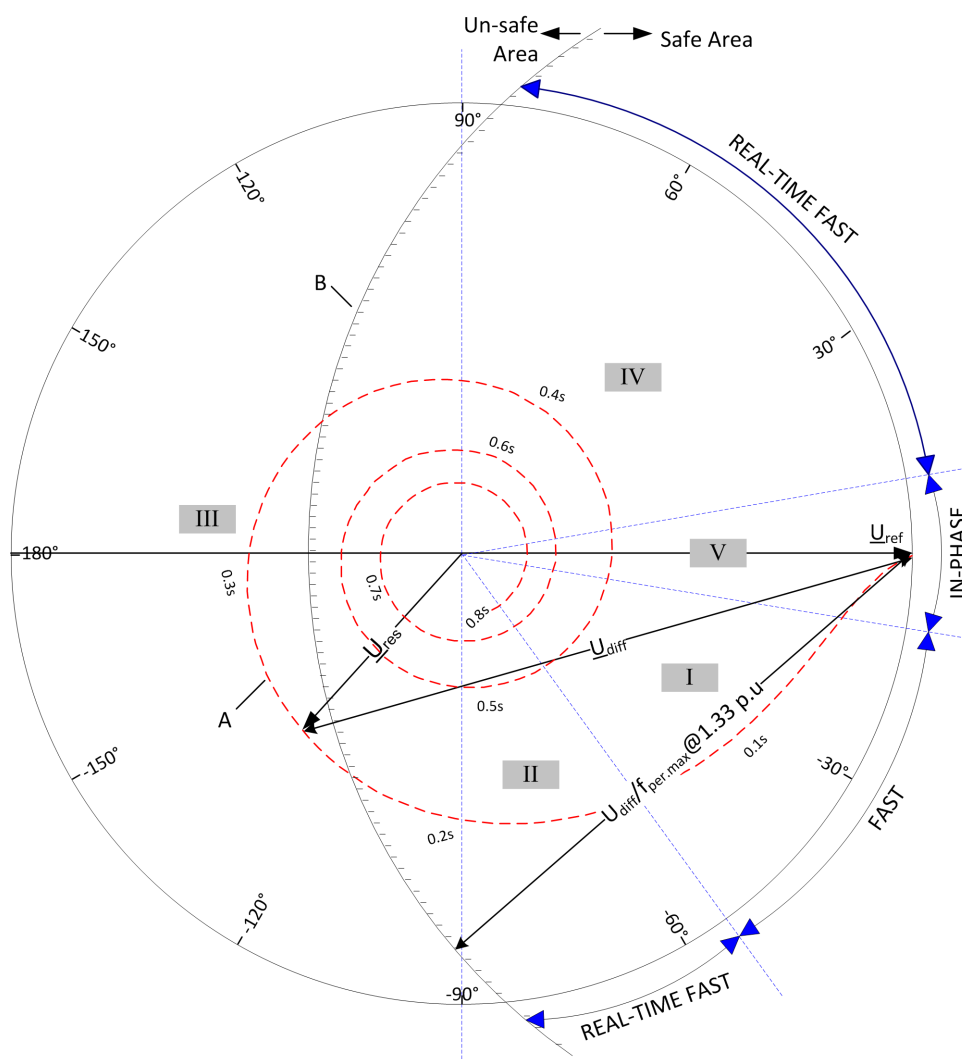

Figure 2-9 Illustration of residual and reference voltage in R- ϕ plane
The illustration in Figure 2-4 can be transformed into R-φ plane as below Figure 2-9.
Curve A is $\underline{U}_{res}$ trajectory. Curve B is the permitted maximum (1.33) of resultant volts per hertz ($\underline{U}_{diff}/f$). Derived from Figure 2-9, as time's going after power loss, the amplitude (R) of $\underline{U}_{res}$ is decaying, while delta phase angle (ϕ) between $\underline{U}_{ref}$ and $\underline{U}_{res}$ becomes bigger and bigger.
The study and testing results show, in most cases, the typical values of df , $d\phi$ and dU are smaller enough within the first tens of millisecond from the instant of running source CB opens. It's good to safe and fast transfer due to the slight shock to motors. FAST transfer mode is aimed to restrict $d\phi$ at the instant of transfer within a small value, e.g. 60° . It can obviously be seen, on Figure 2-9, that the resultant volts per hertz ($\underline{U}_{diff}/f$) at $d\phi=60^\circ$ is ≤ 1.00 .